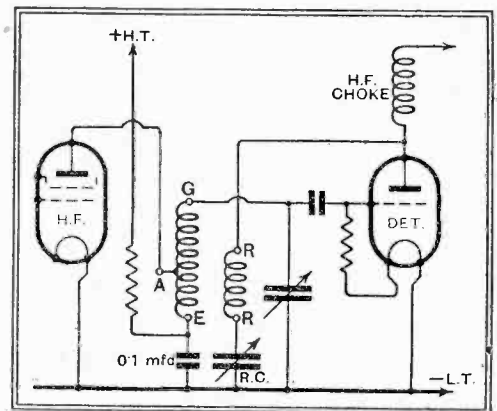

Fig. 1.—By joining the preceding anode to the "aerial" terminal of a standard coil, selectivity is improved.
the anode of the H.F. valve to the terminal marked "Aerial" of the coil (as in Fig. 1). The method thus applied is identical to that universally used to obtain selectivity between the aerial and input tuning circuit. The result will be an enormous increase in selectivity, accompanied by a relatively small drop in signal strength.
Fig. 1.—The use of a screened lead for the reaction circuit connection has no other effect than the addition of a small capacity (C) between detector anode and earth.